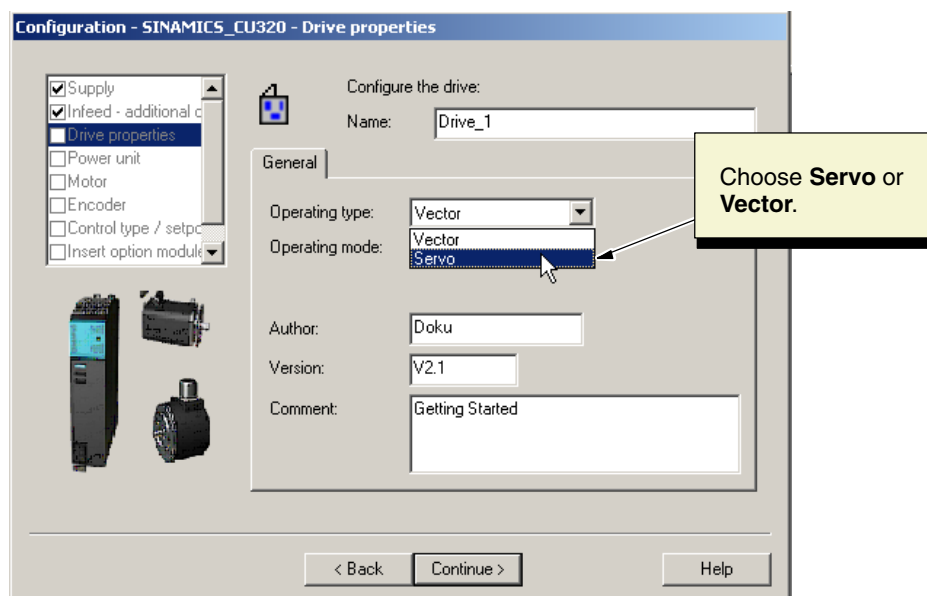

Fig. 3-17 Drive properties
7. The drive properties dialog box (see Fig. 3-17) contains general information about the drive.